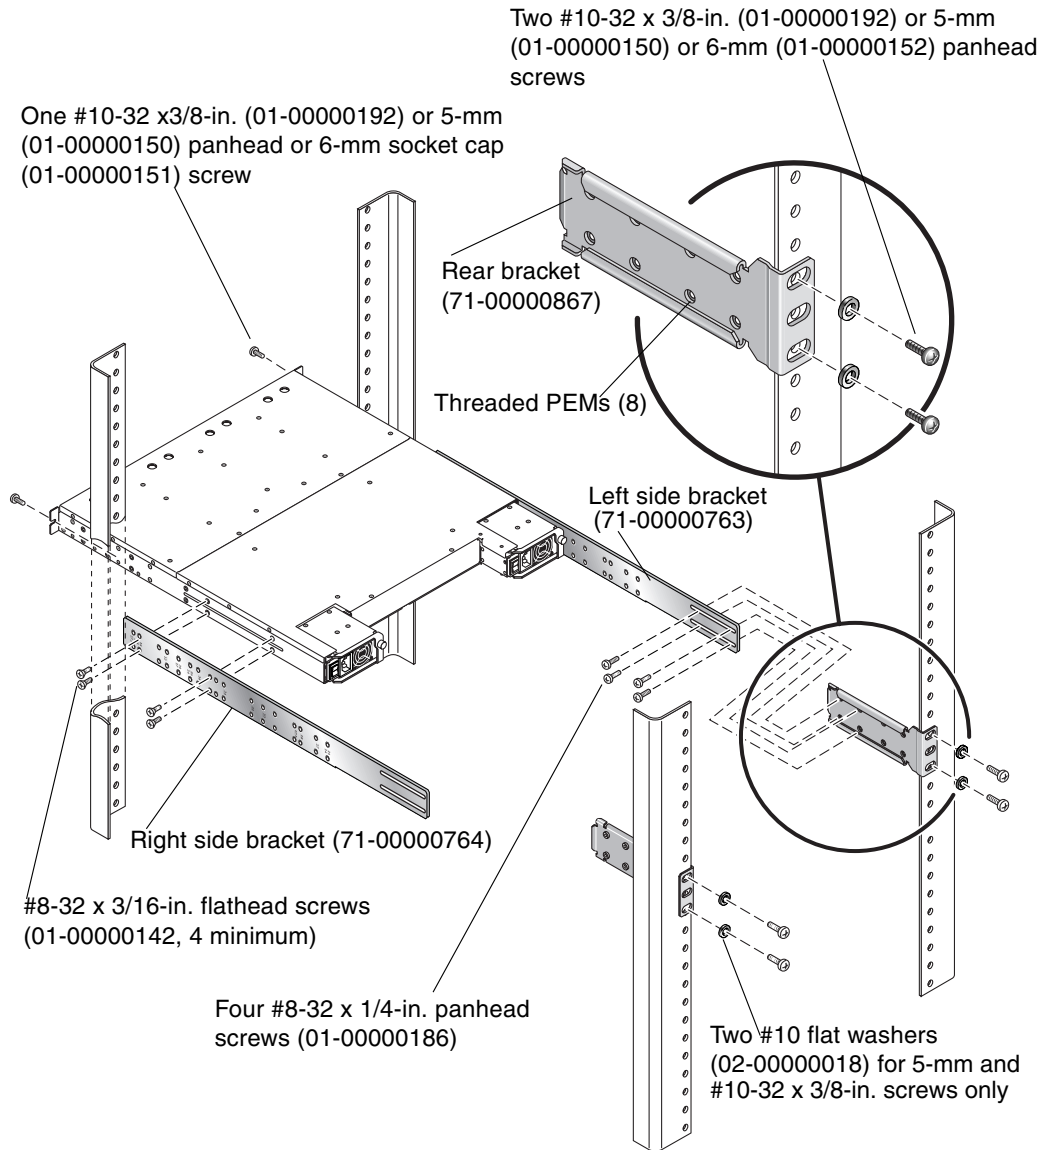

FIGURE 2-4 Cabinet Rackmount with Rear Brackets
Refer to FIGURE 2-4 during installation.
6. Attach the rear brackets to the rear vertical posts using a total of four screws and four washers (two screws to attach each bracket to a post). (See FIGURE 2-4.)
8. **Attach and secure the array's front mounting ears with two appropriate screws (one screw into each ear, as shown in FIGURE 2-4):**